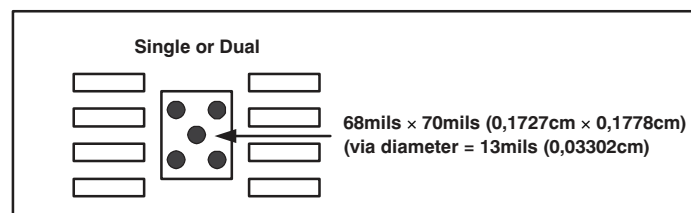

Figure 10-1. PowerPAD PCB Etch and Via Pattern
2. Prepare the PCB with a top-side etch pattern, as shown in Figure 10-1. There should be etch for the leads as well as etch for the thermal pad.